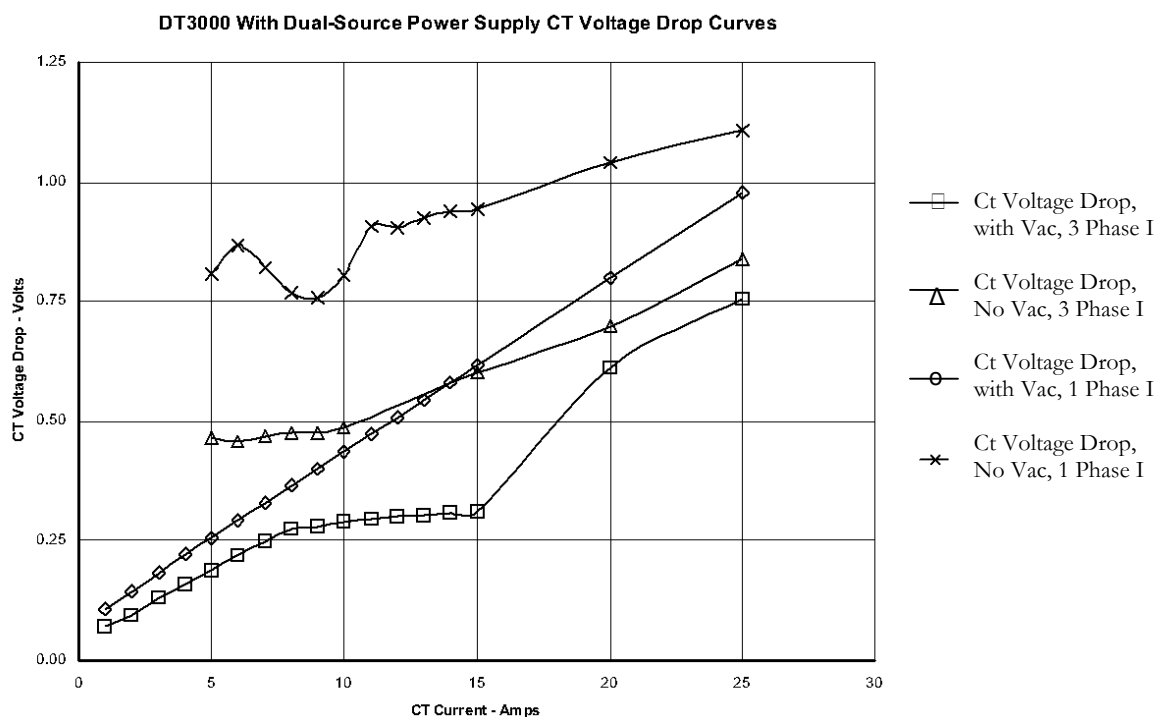

Fig. B-8 Digitrip 3010/3020 Protective Relay Ct Voltage Drop Curves
- Connect an isolated ac multi-meter across any one phase Ct input and observe the voltage drop, which will be less — maybe much less — than 0.25 volt. See Figure B-8.
- The ac voltage drop across the Ct input should rise to a larger value, at least twice as large as when ac was applied, and maybe approaching 0.5 volt as shown in Figure B-8.
drop across the Digitrip 3000 current input during the test. Check the value against the "No Vac, 1 Phase I" curve, the highest curve, of Figure B-8.
the multi-meter should decrease to the value for the "With Vac, 1 Phase I" curve of Figure B-8. With ac power applied, this voltage will be roughly half of the value without the ac power applied.